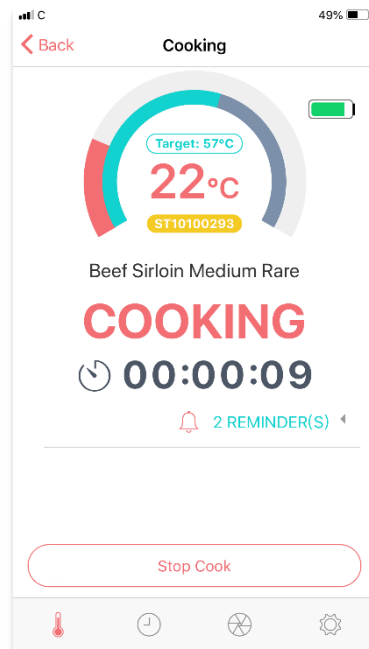

Figure 9. Cooking
8. Tap the “Start Cook” to start monitoring the meat/food during cooking. You will see the cooking screen in your mobile phone as shown in Figure 9.